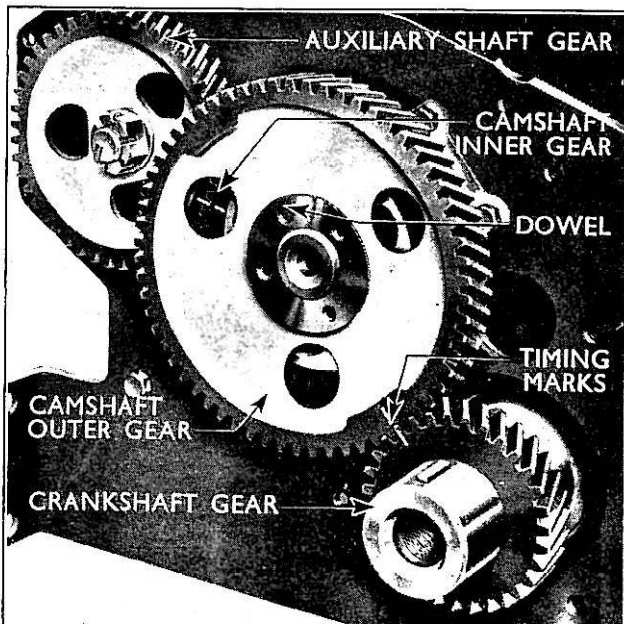

Fig. 70
The camshaft and auxiliary drive shaft are driven from the crankshaft by helical gears. Should they at any time be disturbed, the timing gears are suitably marked to facilitate re-timing, and the marks are all relative to top dead centre compression stroke, No. 1 cylinder. (See Fig. 70.)
- 1 Refit the crankshaft gear using tool No. TTr, D 6306-B. Take care that the marked side of the gear is to the front and that the keyway is located over the crankshaft key (see Fig. 70). On current engines a long single key is fitted.